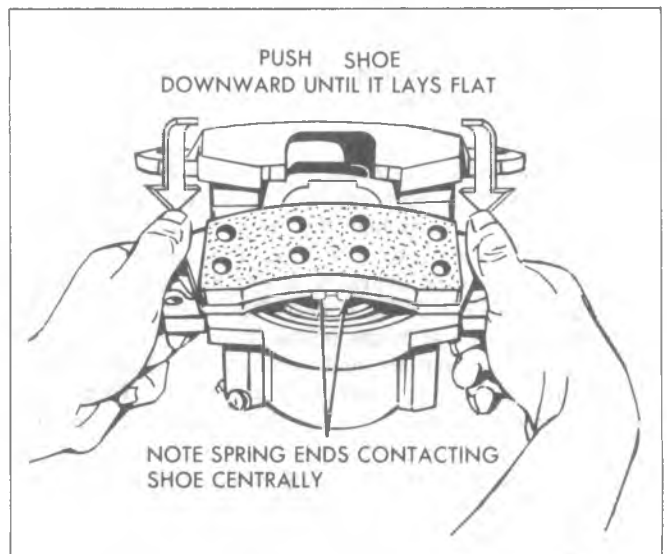

Fig. 32—Installing Shoe to Caliper
5. Push down until the shoe lays flat against the caliper (fig. 32).